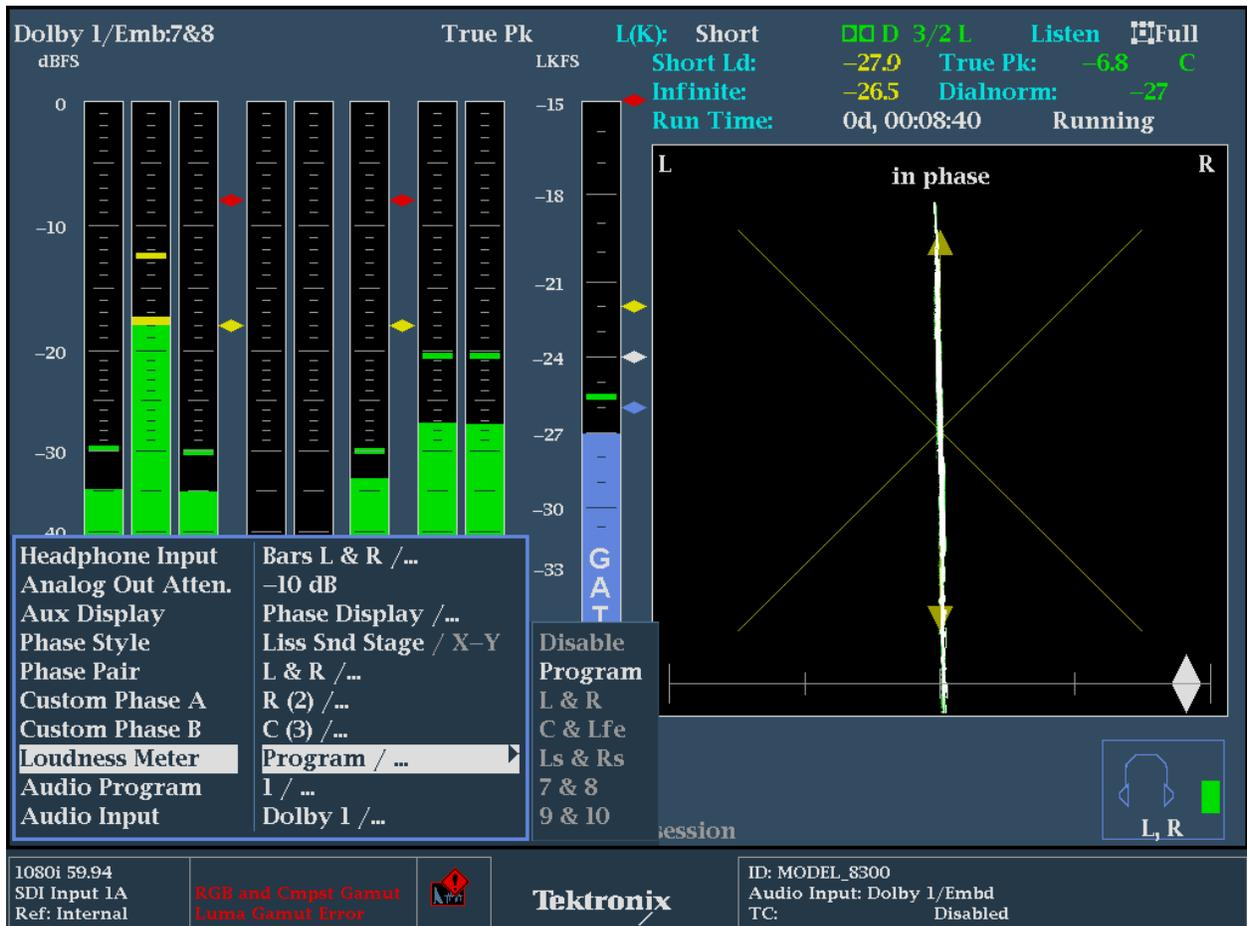

Figure 1. Audio Display with Audio Loudness Meter.
5. Enter the sub menu by pressing **SEL** and navigate to the **Program** selection. (Figure 1)